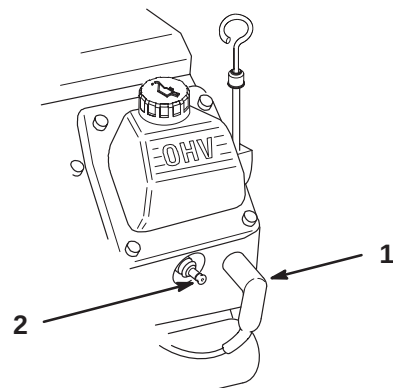

Figure 23
2. Pull the wires off of the spark plugs (Fig. 23).
3. Push the wires onto the spark plugs (Fig. 23).